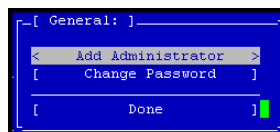

Figure 221. General Settings Window
1. On the Configuration Interface main menu, tab to General Settings and press Enter. The General window opens, shown in Figure 221.